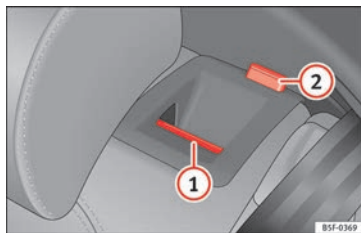

Fig. 145 On the rear seat backrest: release catch (1); red mark (2).
- Push the unlock button »» Fig. 145 (1) forwards and at the same time lift the backrest.
- The rear seat backrest is not engaged when the red marking of the button (2) is visible.
The rear seat backrest is not engaged when the red marking of the button » Fig. 145 ② is visible.